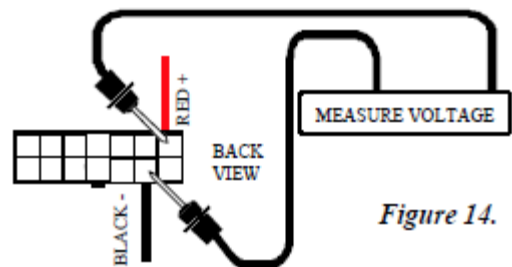

Figure 14.
9. Insert the multimeter probes into the terminal with the red wire (pin 7) and the terminal with the black wire (pin 13) on the back of the main harness connector (7). **See figure 14.**